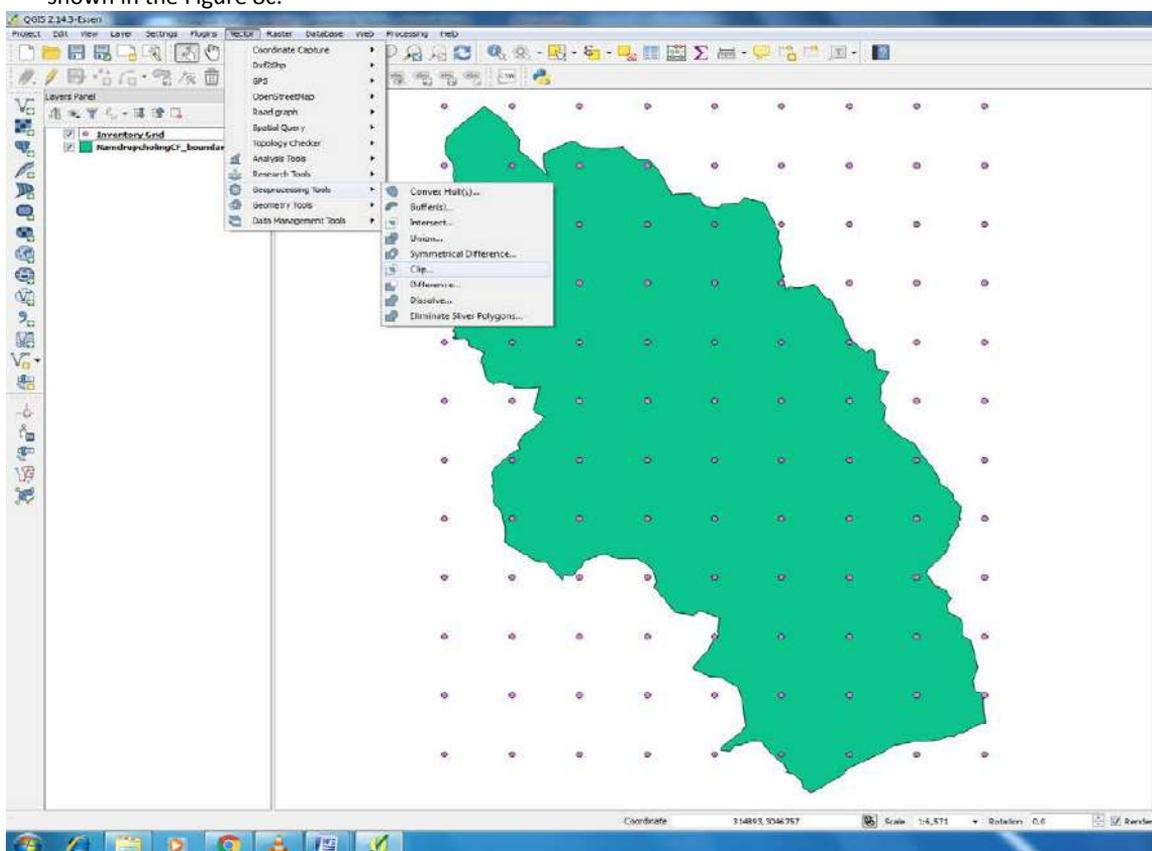

Figure 8c
iii. Once you click **“OK”**, a grid with spacing you provided will be created as shown in the figure 8c. For now, the name of the grid is given as Grid CF. However, since you need the grid just within the CF boundary, the grid thus created (Grid-CF) needs to be clipped with the CF boundary to get the final grid of the community Forest.
- Go to the tap **“Vector”**. Click on **“Geoprocessing tools”** on the drop down and subsequently click on **“Clip”** as shown in the Figure 8c.